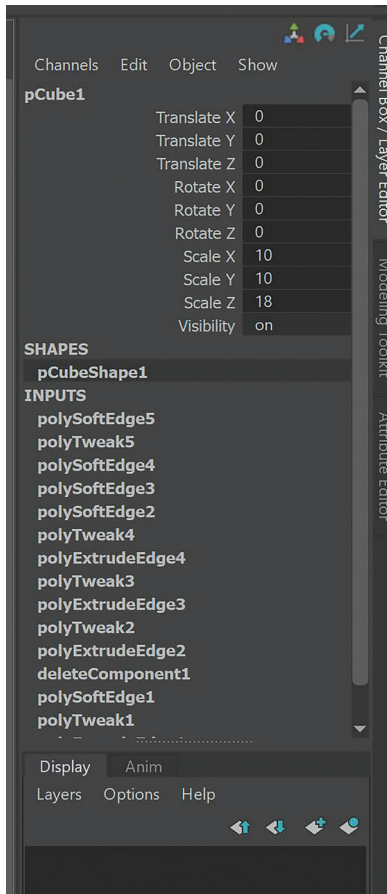

FIGURE 1.17 The Input stack of the Channel Box. This shows the History of steps created thus far.
Step 14: Clean up history. Maya remembers everything we've done and stores this in the Input stack under the Channel Box (Figure 1.17).